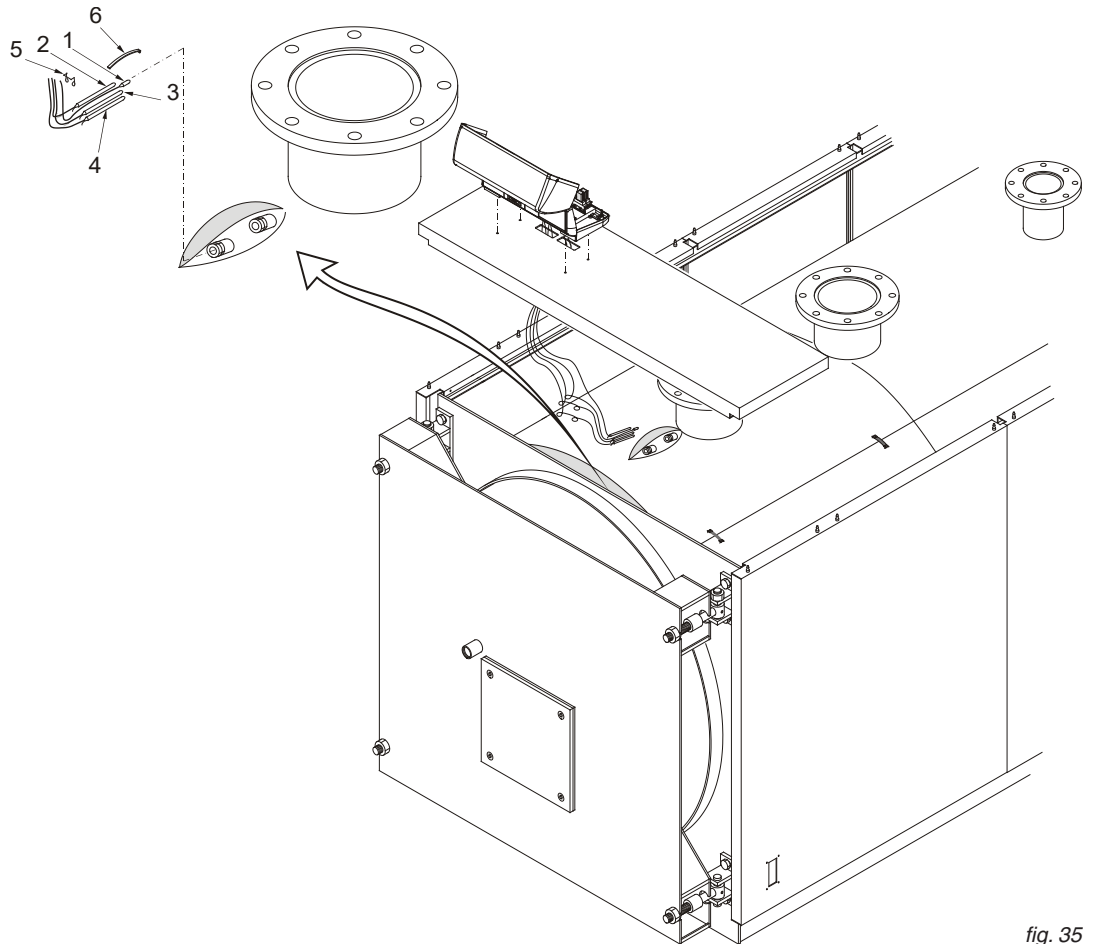

fig. 35
E) Insert into the conduits the bulbs of the instruments as indicated in fig. 35 and wire the panel board to the power line, to the burner and to any pumps, etc.
- E) Insert into the conduits the bulbs of the instruments as indicated in fig. 35 and wire the panel board to the power line, to the burner and to any pumps, etc.
Following this sequence, insert the probes of the instruments in the bulb holder/s on the top of the boiler (Ref. fig. 35): of the thermometer (pos.1), of the working thermostat (pos. 2), of the safety thermostat (pos. 3), of the minimum thermostat (pos. 4). It is recommended to insert the probes all the way in the relative bulb holders for best contact. Then insert the contact spring (pos. 6) and fasten the capillaries with the spring/s (pos. 5).